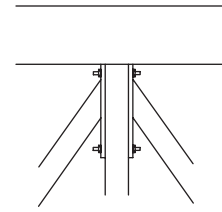

Figure 4
- Position diagonal braces in bays between uprights; use diagram in Appendix 1 (Page 6) to ensure correct location and orientation of each diagonal. At top of center upright, attach the two mating diagonals using all thread bolts (F), flat washers (J), and frame nuts (H) as shown in Figure 4. At all other diagonal to upright connections, attach with frame bolts (E), flat washers (J), and frame nuts (H). Tighten all nuts thoroughly.